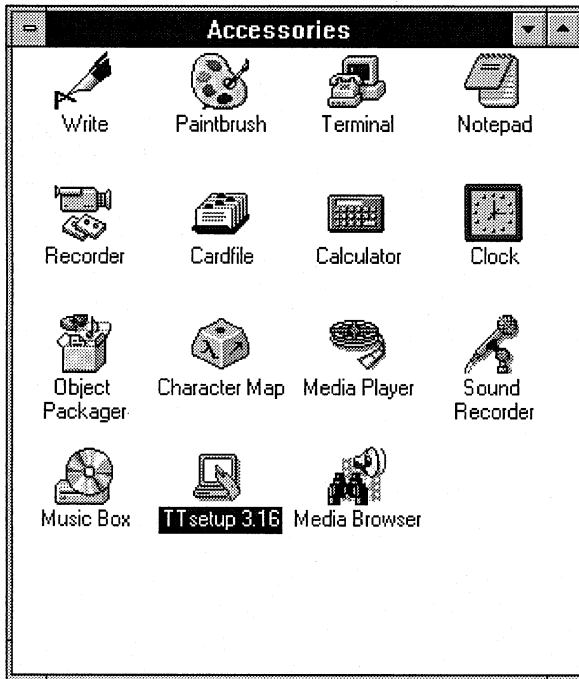

fig. A-8
1. Start Windows and open TTsetup (fig. A-8).